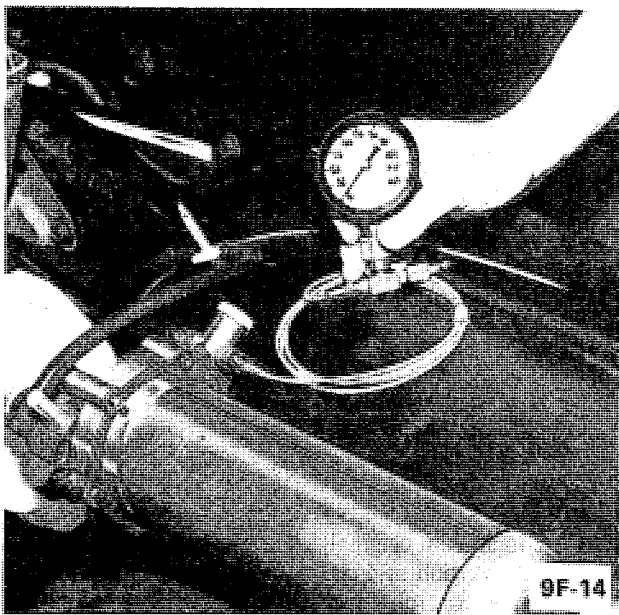

Figure 9F-1 - Test Gage Installed on Regulator Valve
1. Deflate system through service valve and disconnect line at pressure regulator valve. Install test gage on regulator valve high pressure fitting. See Figure 9F-1.
2. Inflate system through service valve to maximum available pressure. See Figure 9F-7. If available pressure is less than 140 psi, start engine to build-up reservoir to this pressure.